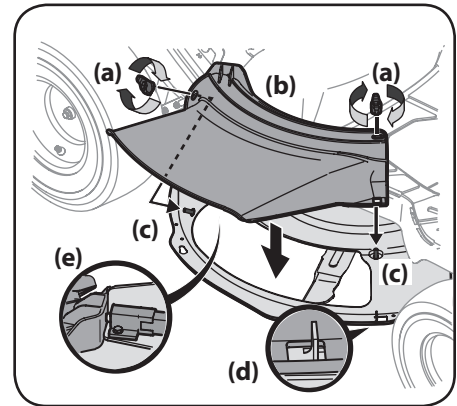

Figure 2-9
1. Remove the wing knobs (a) installed on the mowing deck and retain for later installation. See Figure 2-9.
2. Install the deck chute (b) into the deck discharge opening on the deck. The studs (c) on the deck surface will fit through the holes on the upper portion of the deck chute (b). The small tab (d) on the deck lip area will fit through the square cutout on the lower portion of the deck chute (b). See Figure 2-9.
3. Secure the deck chute (b) by tightening the wing knobs (a) removed in step 1. See Figure 2-9.